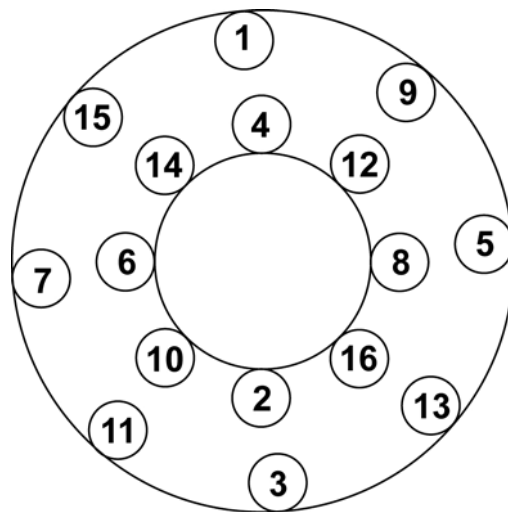

Figure 5 : Wear Plate bolt tightening sequence
- 1.7 For each wear plate being replaced, follow the tightening sequence shown in **Figure 5** for the first 16 screws. The remaining screws may be tightened in any reasonable crosswise pattern. See Table 1 for tightening torque values.